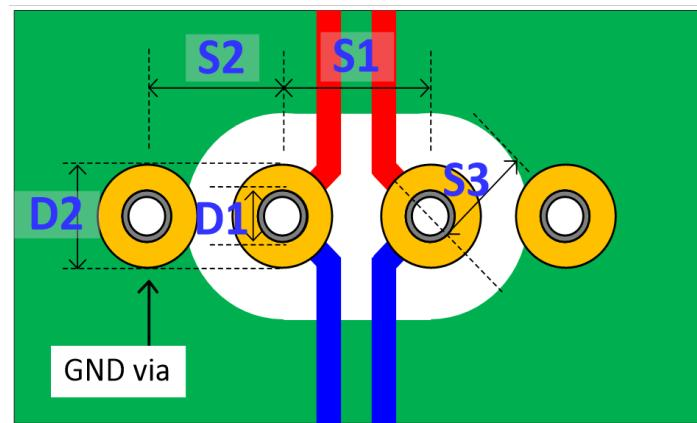

Figure 33: The Reference Layout of Differential Via Pattern for PTH Process
- For plated through hole process, it is recommended to use the following differential via pattern to optimize the impedance as shown in Figure 33 and Table 30.